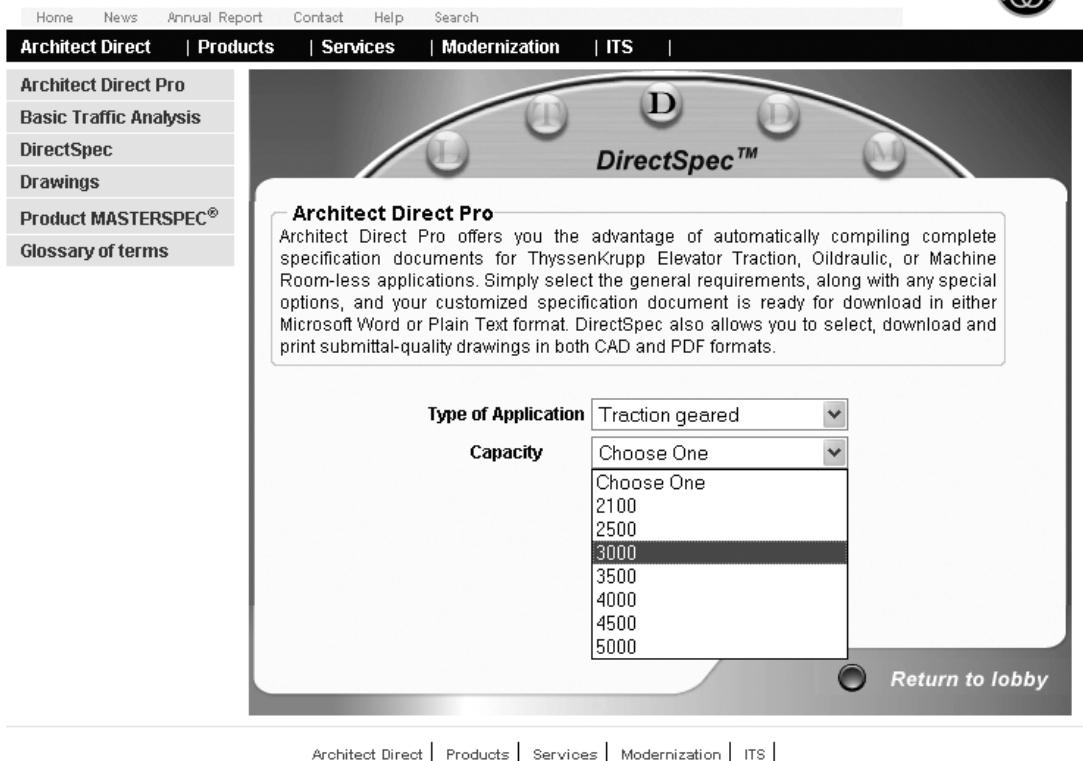

Figure 3-3.2 Elevator manufacturer’s website
5. Enter the following information (see Figure 3-3.2):